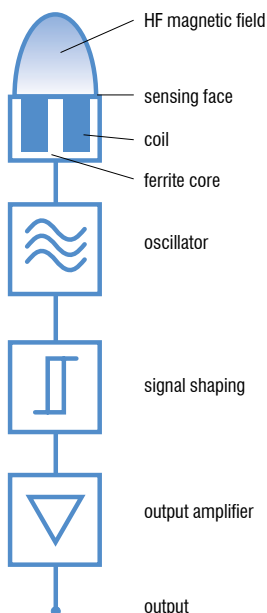

Fig. 1: Conventional inductive sensor technology, as used in the Classics family
**Classics** sensors have a conventional oscillator and coil generating a high-frequency magnetic field that emerges at the sensing face. Any metallic object found in this field absorbs some of the energy, which is in turn detected and evaluated by built-in electronics (Fig. 1).